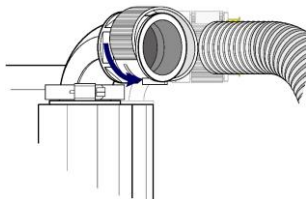

Fig 5.2.2
▶ Move the plastic clamp and make the fixed sheet out of the groove. (Fig 5.2.2)